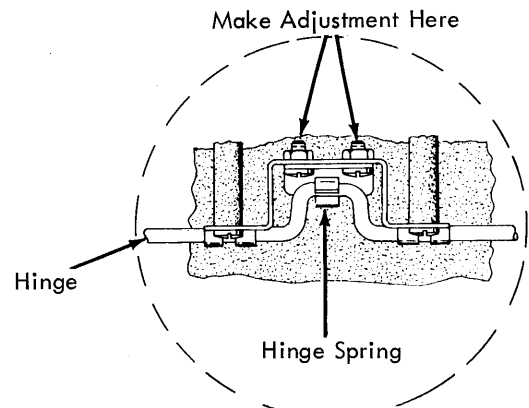

FIGURE 282. Hinge Spring
3. Hinge Spring (Fig. 282) - Position so that the top cover will be detented and held in the open position.